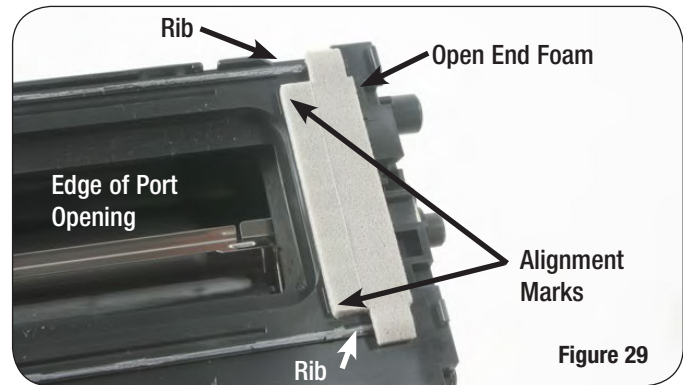

Figure 29
4. Remove the release liner and install the closed end foam onto the back of the mag section. Center the foam over ribs and against alignment marks as shown in Figure 29. Press to activate adhesive.